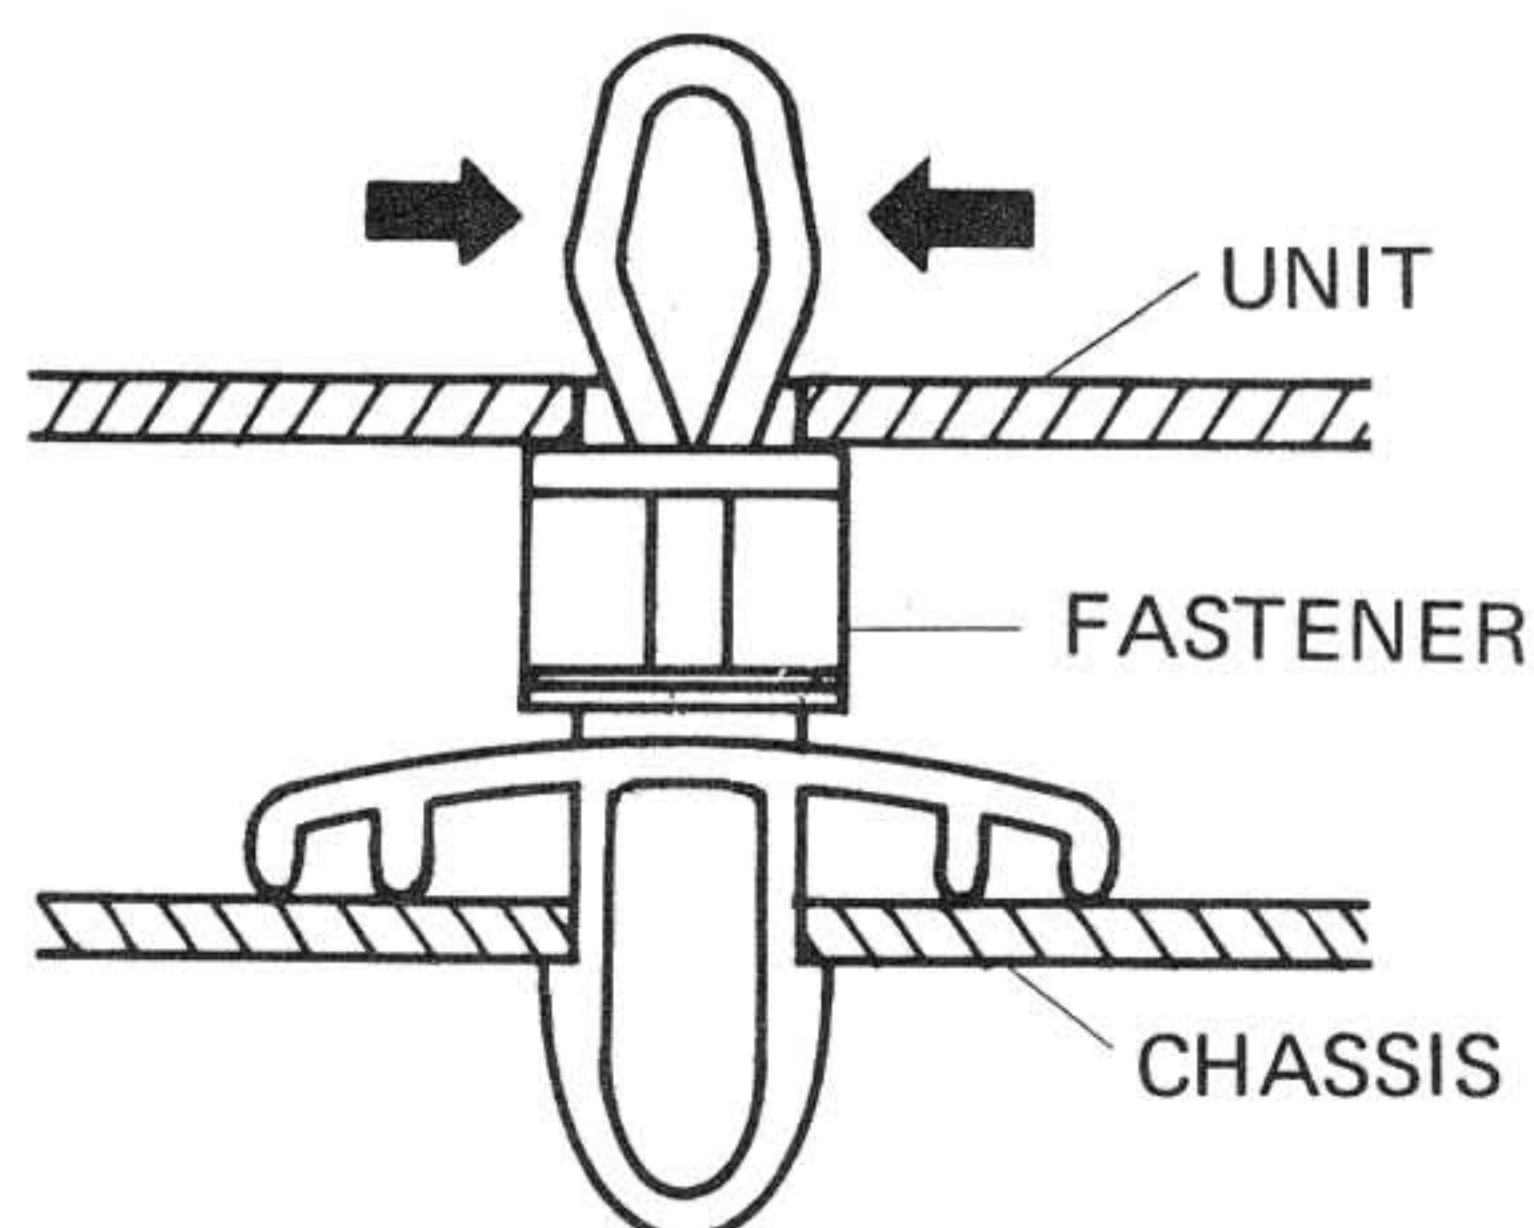

Fig. 12
2. Squeeze upper part of fastener with small pliers as indicated by arrows in illustration, then pull unit upward (fig. 12).